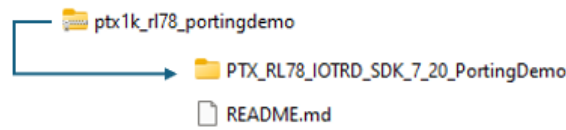

Figure 1. SDK ZIP Package Content
- Figure 1. SDK ZIP Package Content3
The SDK content download includes a .ZIP package containing a README.md, the source code, the e2 Studio project configuration and Smart Configurator settings (see Figure 1). Extract the content.